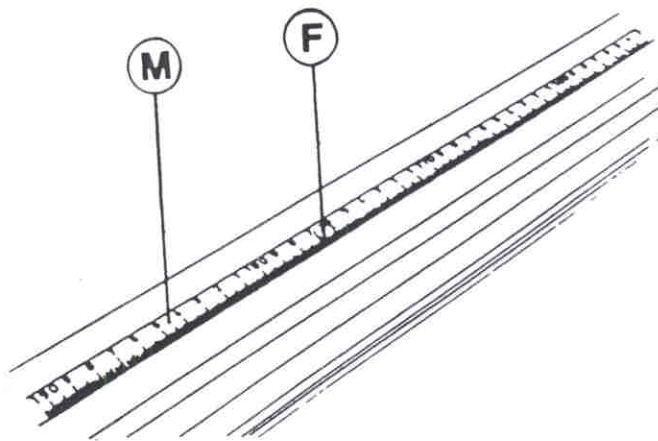

Fig.36
- Loosen millimeter rule (M fig.36) by turning screw (F)
- Lock rule (M) by means of screw (F fig.36)